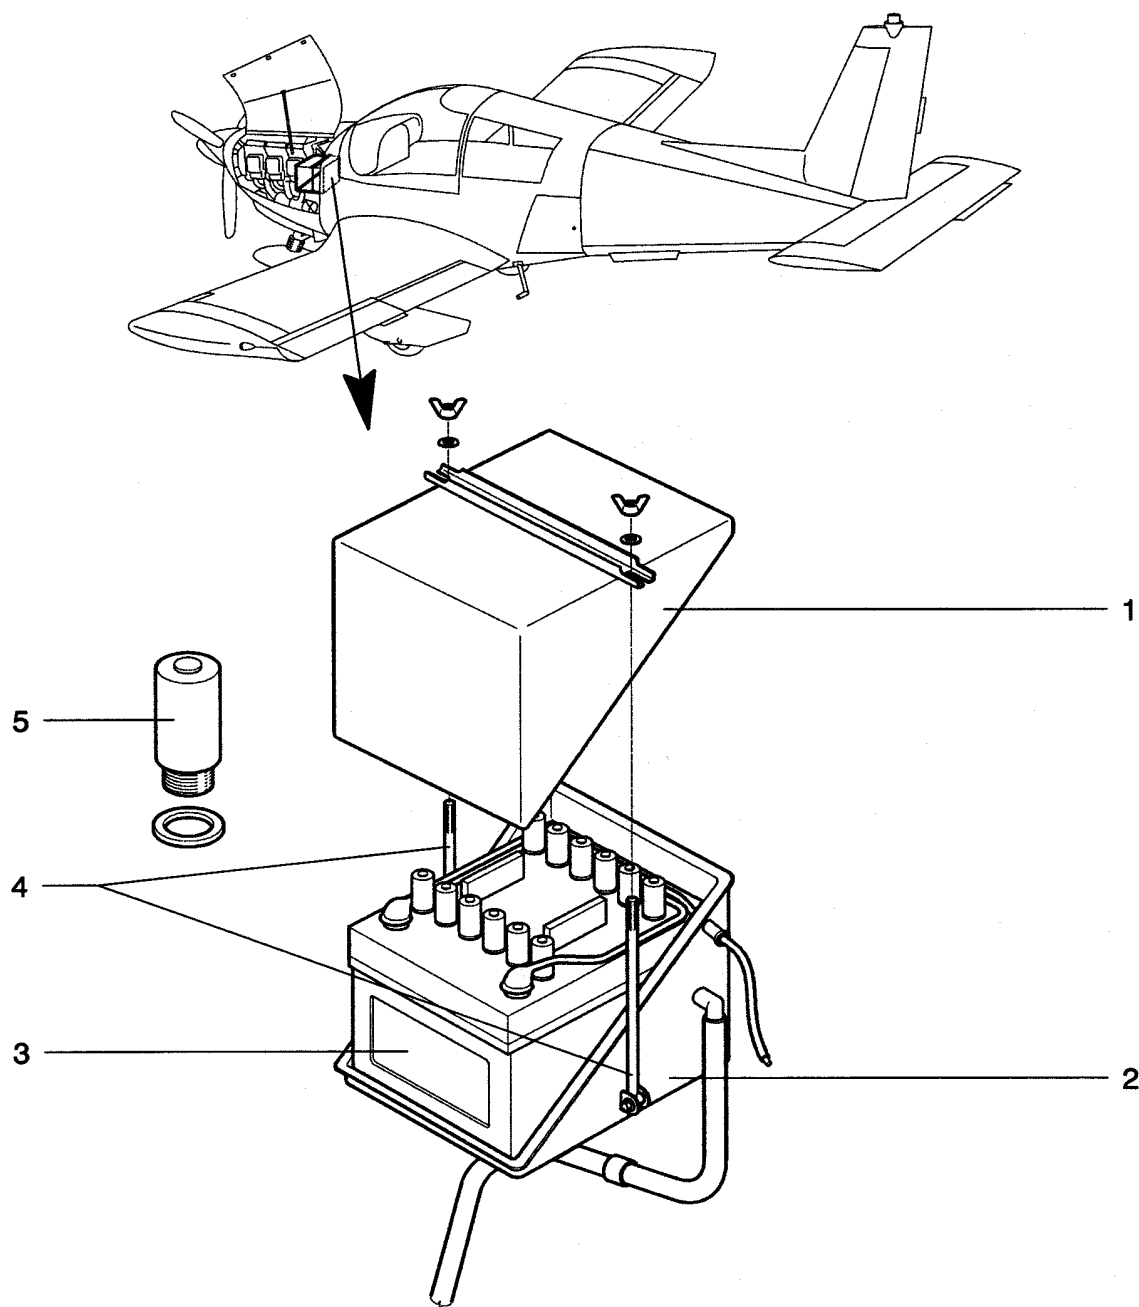

Fig. 8-4 G-246 Battery Installation
- 1) Set and adjust the battery (3) onto the support (2) (Fig. 8-4).
- 5) Set on the battery cover (1), adjust holders (4) and tighten the fly nuts. Secure the nuts after tightening with the binding wire.